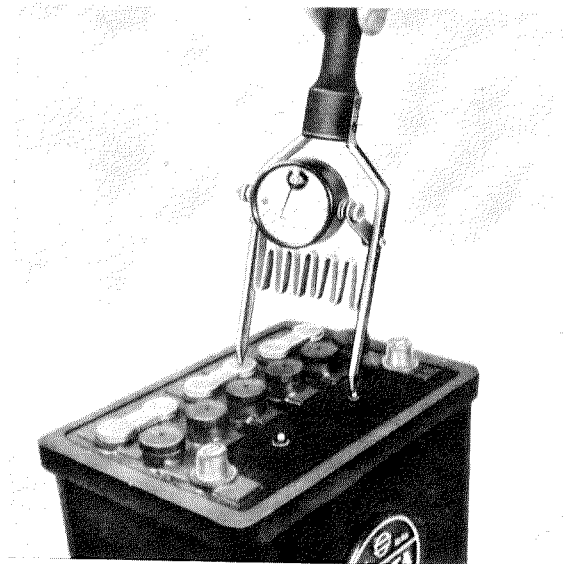

Fig. 54 — 10/3
1. Press the contact prods of the cell tester firmly on the two terminals of a cell (Fig. 54 — 10/3).